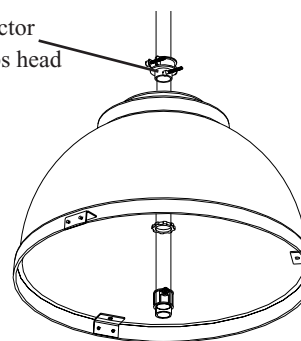

Figure 1 Slide housing and connector onto conduit
- 4.4. Slide the Clamp Connector and housing up the conduit so that the end of the conduit is approximately level with the bottom of the housing. Tighten the 2 Phillips head screws (Figure 1).